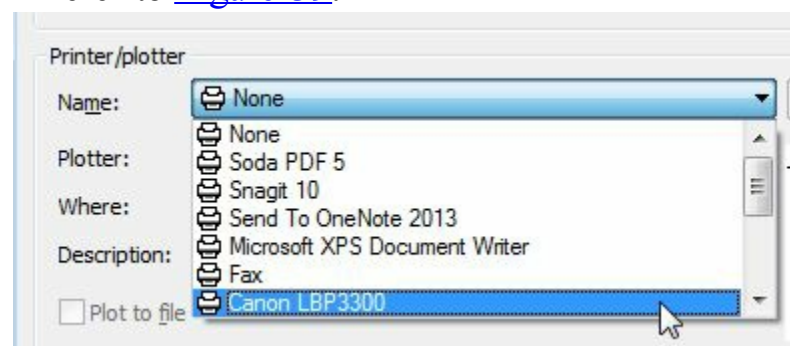

Figure-39. Printer selection
- Select the Printer/plotter from the **Name** drop-down in the **Printer/plotter** area of the dialog box; refer to Figure-39.